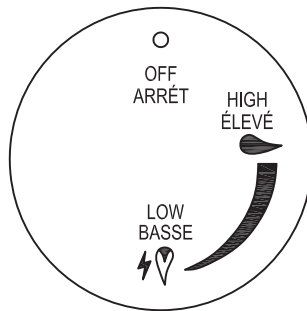

Figure 7
2. Make sure regulator/control knob is in the "OFF" position as shown (See Figure 7).